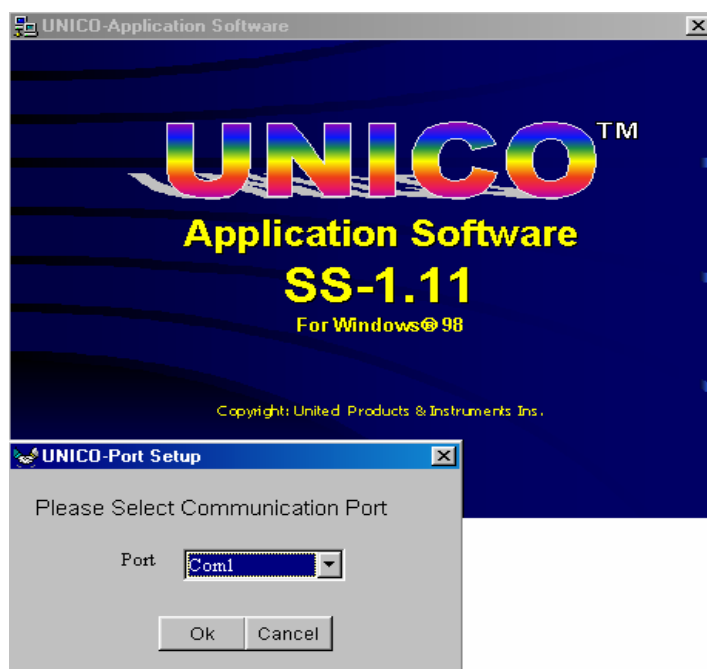

Figure-11 Start-up Screen
Step 6: The Start-up Screen of **VIS1100RS** will appear as Figure-11 shown.